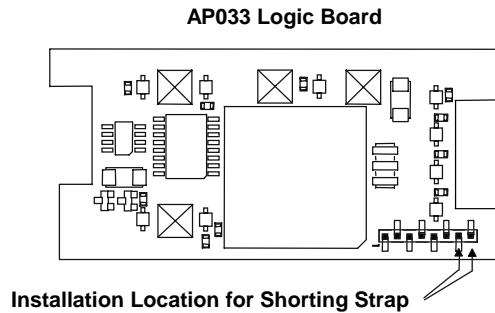

Figure 9.
2. Insert the two-pin shorting plug into the socket on the Logic Board. Use the two holes closest to the probe cable (Figure 9).
2. Reinsert the shorting plug into the two holes near the end of the Logic Board. (Figure 9.)